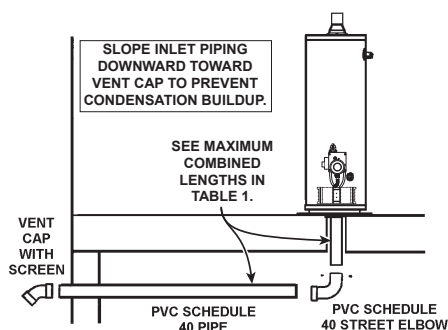

Figure 23: Inlet Air Installation
4. Attach a 3" (76 mm) or 4" (102 mm) PVC street elbow to the metal air intake vent using 3 sheet metal screws. Continue PVC piping to outside wall and terminate with vent cap and screen. See Figure 23 and Table 3.